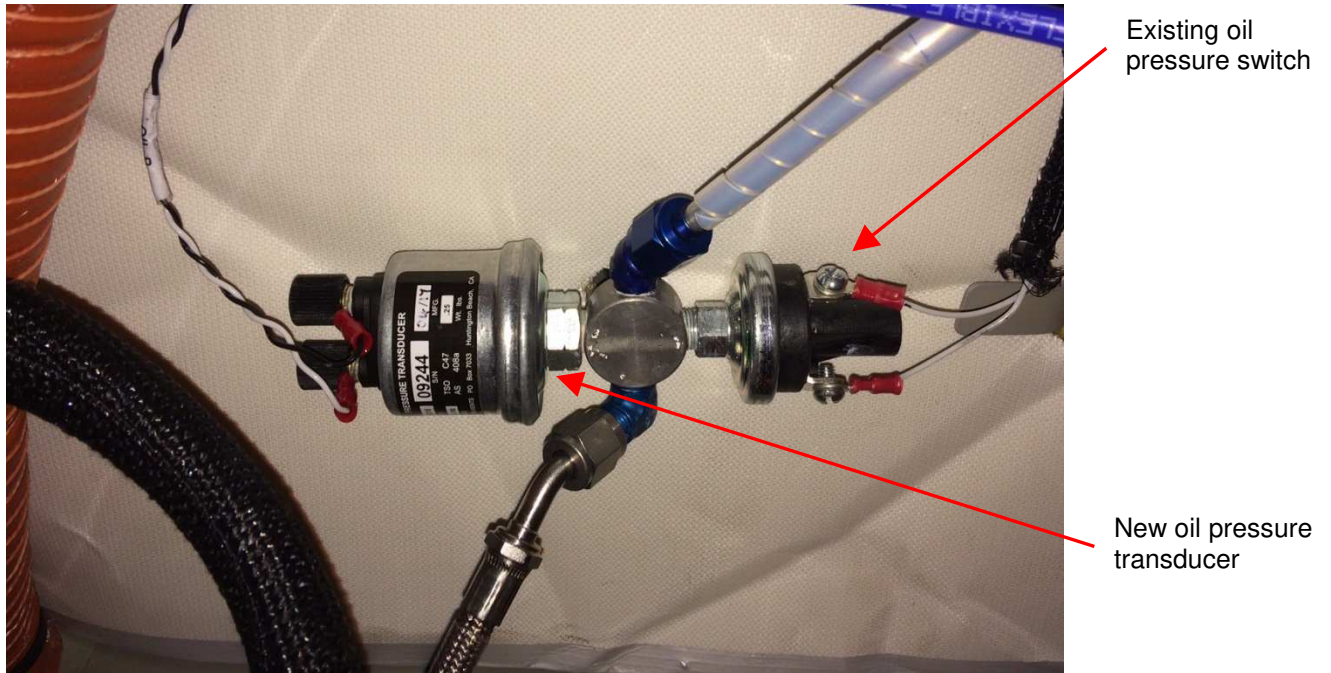

Figure 3 - Installed J.P. Instruments transducer
- 1.10. Route the 2 transducer wires from the indicator connector J3 to the installed transducer. Refer to Figure 3. Route the wires with existing wire routing running along the fire wall. The routing shall ensure that no chaffing can occur.